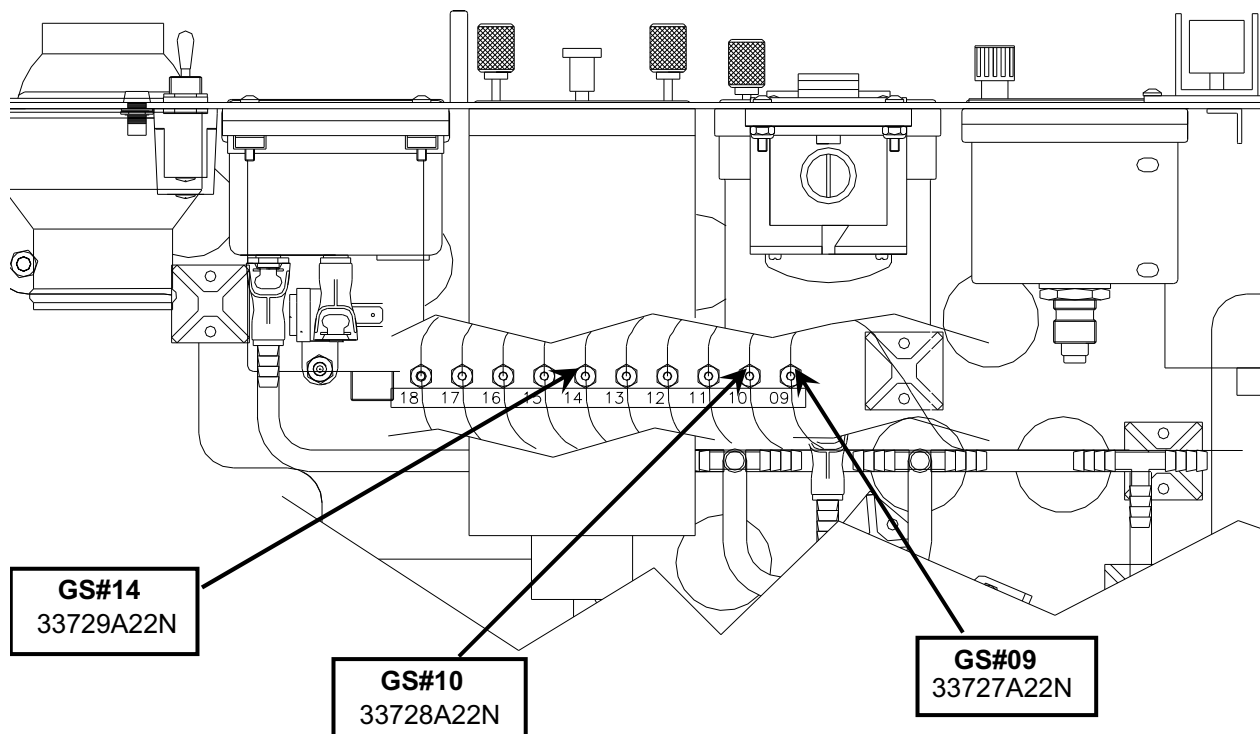

Figure 3
10.9 Attach the ground wires as shown in Figure 3.